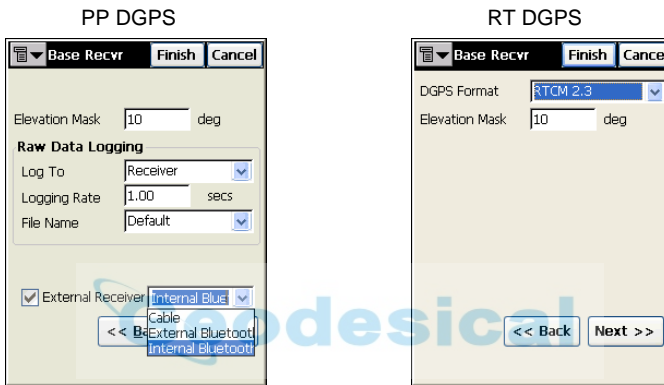

Figure 2-7. Configure the Base Receiver – PP DGPS/RT DGPS
5. On the **Base Recvr** screen, select and enter the following parameters for the type of survey. Press **Next** (Figure 2-7).